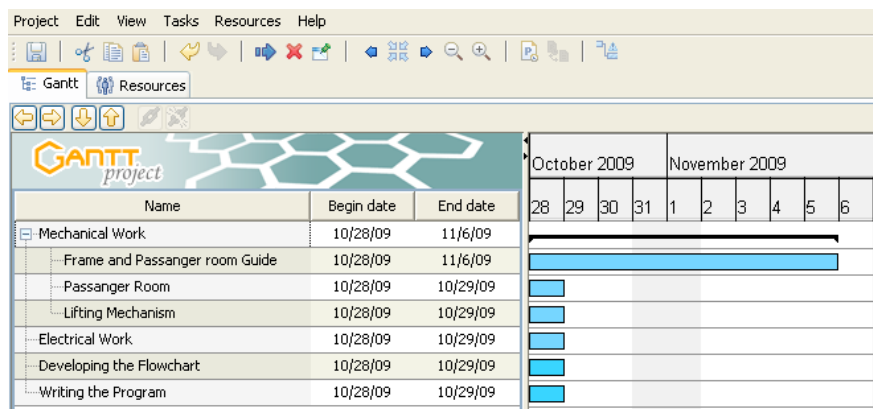

Figure 4.17: The subtasks under the Electrical Work main task.
12. With the **Developing the Flowchart** task still selected, click the **New Task** button and specify a name of **Writing the Program**. Notice that the task automatically displays as a subtask of **Electrical Work** as shown in figure 4.17.